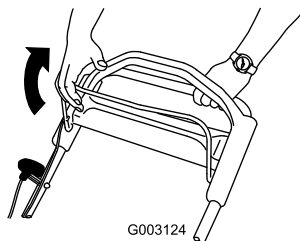

Figure 12
1. Pull the blade control bar to the handle (Figure 12).